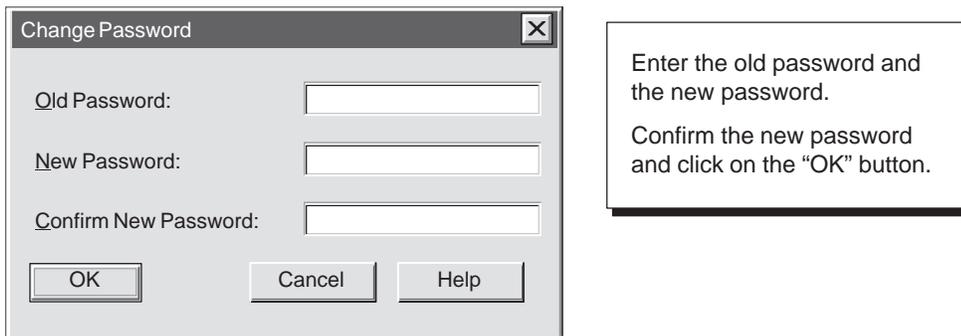

Figure 4-22 Changing a Password for WinLC
4. As shown in Figure 4-22, enter the following information in the “Change Password” dialog box: